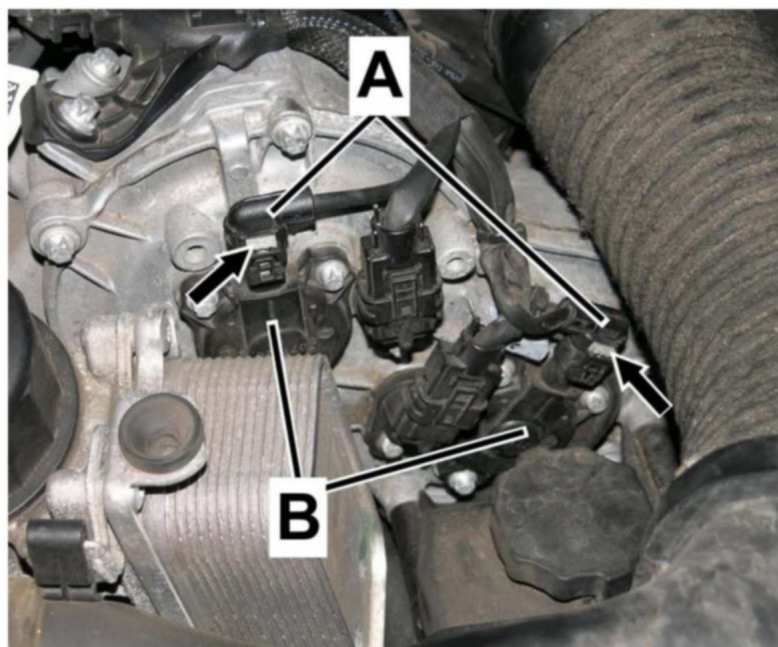

Figure 1
2. Disconnect **camshaft** adjustment solenoids from engine harness connectors (A, Figures 1 and 2) shown above.
^ Push locking tabs (arrows, Figures 1 and 2) into connectors to secure (total of 8 locking tabs).